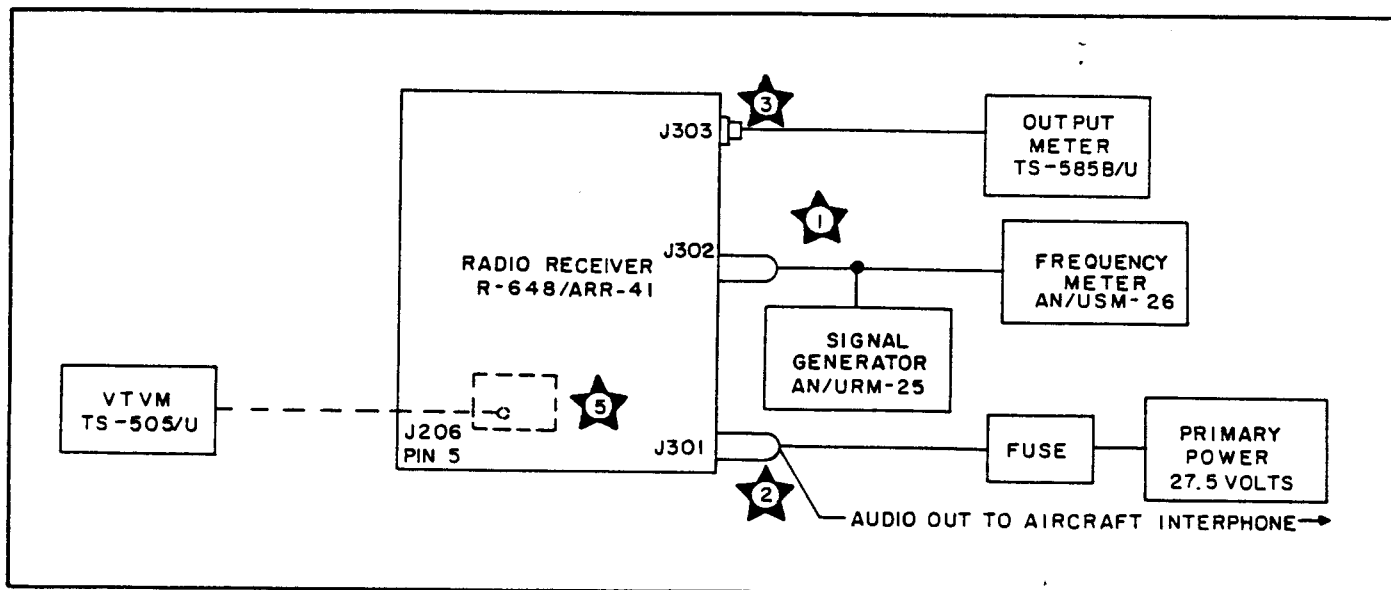

Figure 3-3. Radio Receiver R-648/ARR-41, Test Bench Setup
3-6. Before installation, a test of operation, over-all sensitivity, and calibration is advisable. Figure 3-3 illustrates the bench setup for these tests. The radio receiver cover must be removed to gain access to the assemblies and detail parts. A convenient means of mounting Radio Receiver R-648/ARR-41, the main component of Radio Receiving Set AN/ARR-41, is with the use of the Test Bench Cable Set AN/ARM-21
- a. Connect Radio Receiver R-648/ARR-41 in accordance with figure 3-3.